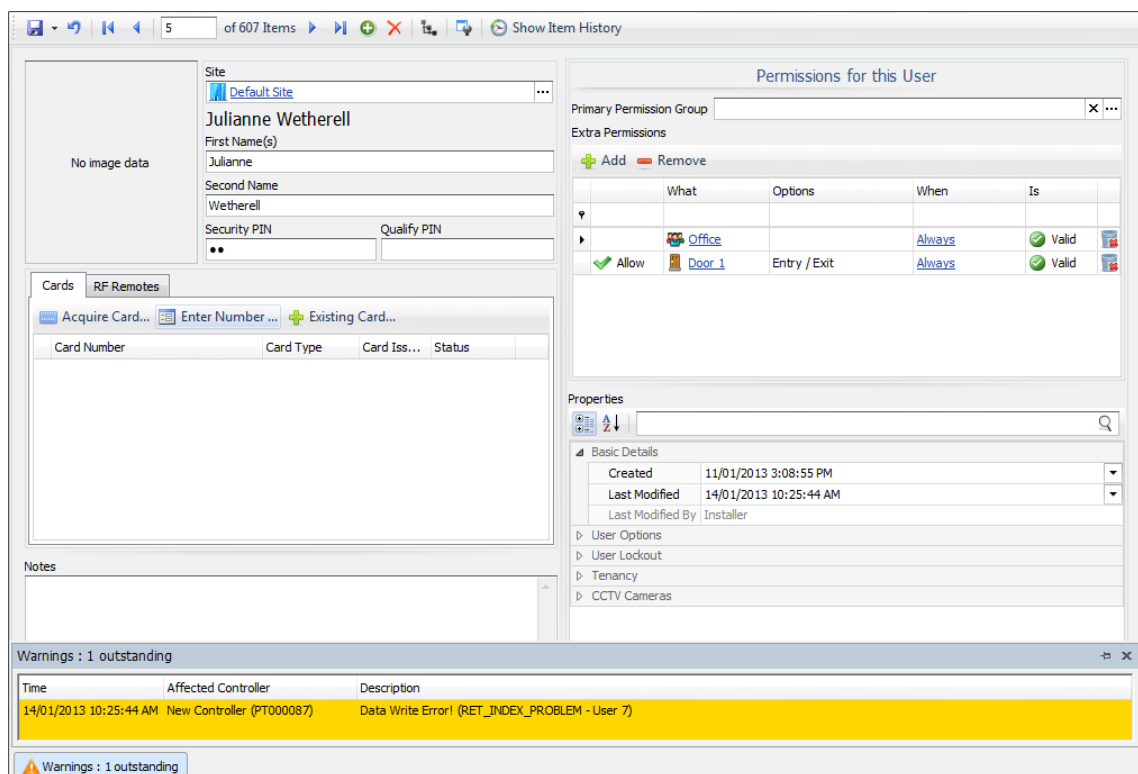

Figure 110
- A warning message will appear at the bottom of the users programming window (*Figure 110*).